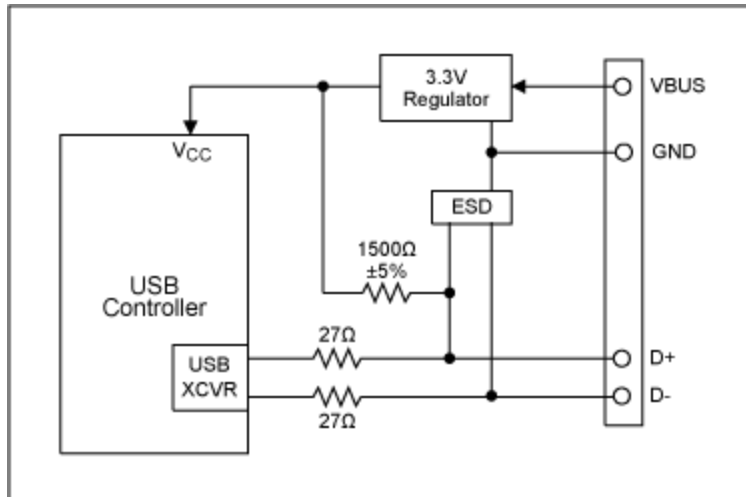
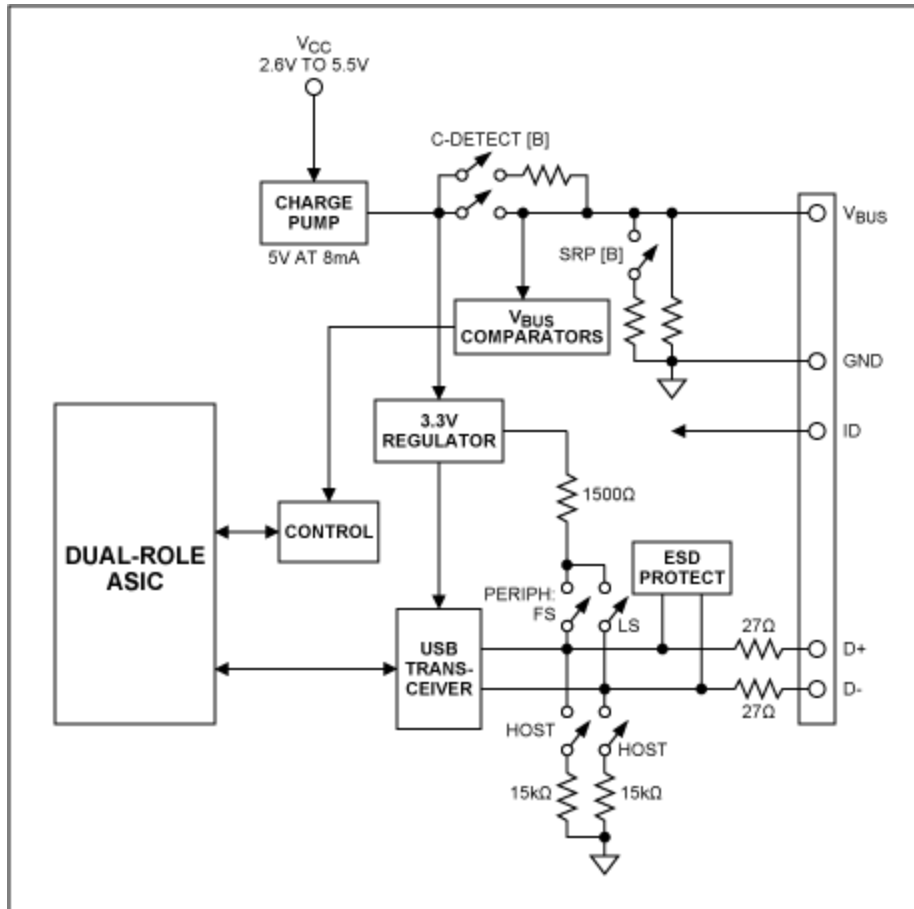

Figure 1. A USB peripheral controller and its associated circuitry.
Figure 5. An OTG transceiver.
**Figure 1** illustrates the basic USB peripheral circuitry on which OTG builds. These example peripherals operate at low or full speed, and are commonly known as USB 1.1 devices. This nomenclature is used even though the USB 2.0 Specification includes the current USB 1.1 specification and introduces a third, higher speed.
The controller in Figure 1 might be a microprocessor plus USB SIE (Serial Interface Engine), an integrated microprocessor/USB chip, or an ASIC connected to a USB transceiver. A bus-powered peripheral requires a 3.3V regulator, both to power the logic and to supply the proper voltage to a 1500Ω resistor connected to either the D+ or D- USB pins. This pullup resistor signals the host that a device is connected, and indicates the device's operating speed. A pullup to D+ indicates full speed; a pullup to D- indicates low speed. The other end of the connection—host or hub—contains 15kΩ pulldown resistors on D+ and D- so the pullup resistor can be detected. Finally, an ESD protection circuit is advisable on D+, D-, and VBUS pins because USB is designed to be hot-plugged.
The Figure 1 circuit functions only as a USB peripheral device. To add OTG dual-role capability, the transceiver must be augmented to allow the OTG device to function as either host or peripheral. Adding the following to Figure 1 lets the system also function as a host:
We are now ready to examine the requirements for an OTG transceiver, illustrated in **Figure 5**.
The Figure 5 system builds on the Figure 1 example circuit. The ASIC block could also be a microprocessor or DSP with USB capability. Three additions make the transceiver OTG compatible: